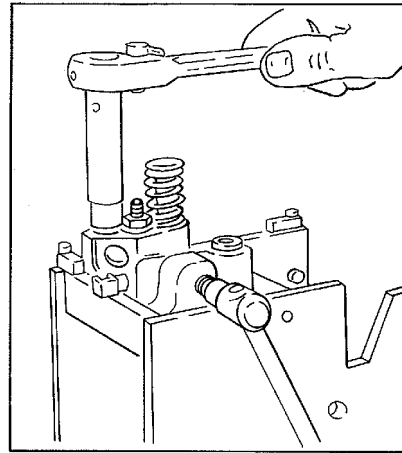

Figure 23. Removing or Installing Filter Cap
1. Support the injector upright in injector holding fixture J 22396 (Fig. 23) and remove the filter caps, gaskets, and filters.